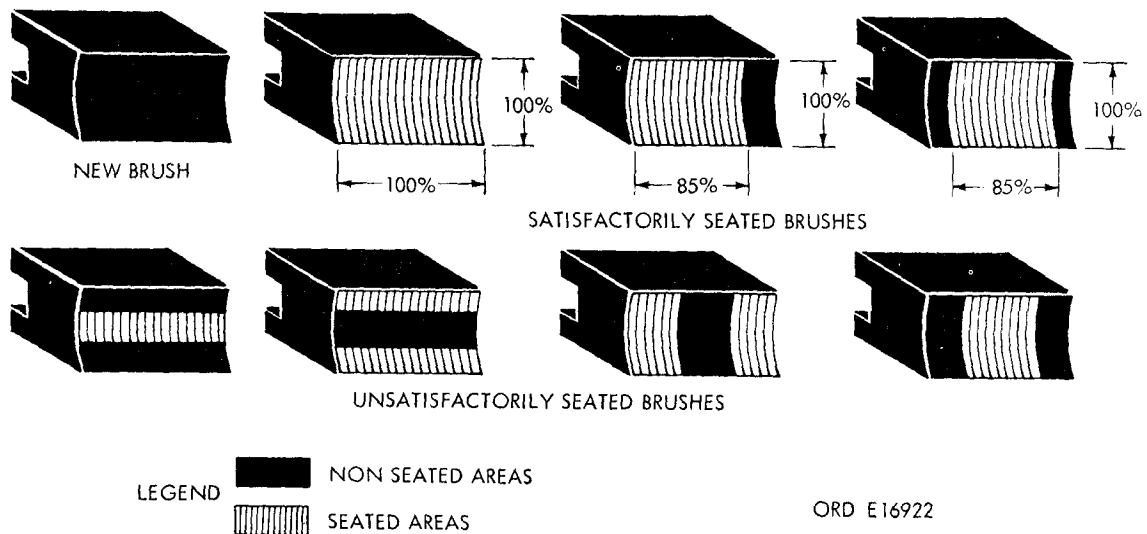

Figure 4-31. Examples of satisfactory and unsatisfactory brush seats.
(d) Remove commutator end head assembly. Lift all brushes and inspect seat contour to determine whether or not sanding operation is satisfactory. Refer to figure 4-31 for examples of satisfactory brush seats.
(2) If a low speed, high current condition exists, check the armature for excessive arcing, grounds and shorts (par. 4-13). Examine starter for armature drag. If drag exists, check for loose pole shoe screws and tighten as necessary. Check for armature eccentricity (par. 4-13) or faulty bearings.
(3) If a low speed, low current condition exists, inspect the starter for faulty connection and for poor brush contact (fig. 4-31).